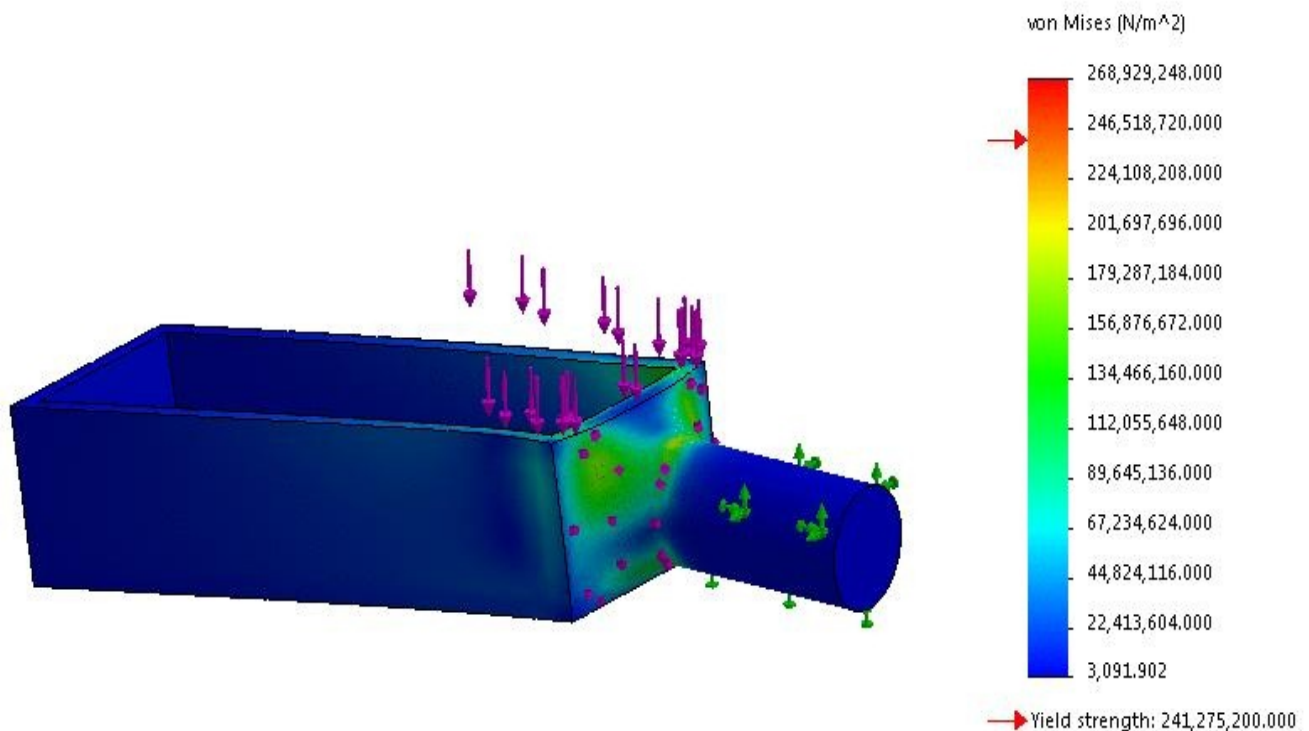

Figure-18. Analysis result
- After the processing is complete, the result of analysis will be displayed; refer to Figure-18.